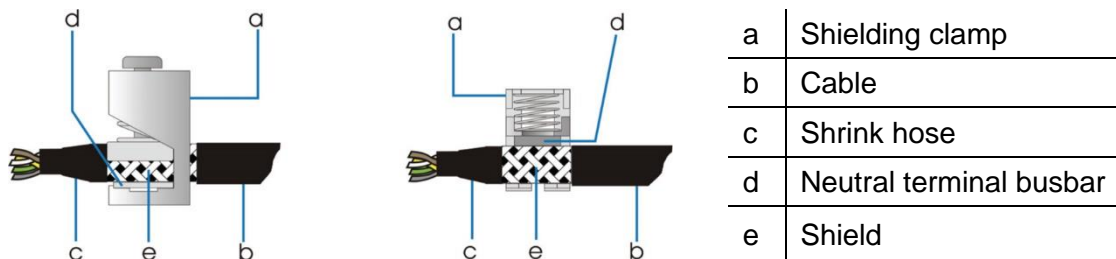

Fig 25 Left: Shield over cable, hand-fasten shield securing clip
4. Attach the cable using the shield securing clip (left in Fig. 25 below), or using the spring-type terminal (right in Fig. 25 below).
Fasten the shield securing clip by hand, do not use a screwdriver or forceps (left in Fig. 25 below).